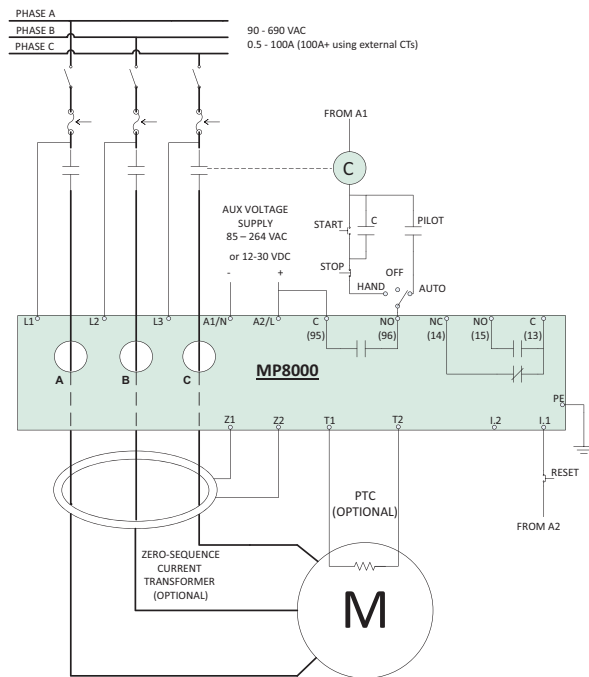

Figure 10
3. Provide control power to power the MP8000 with 85-264 V ac or 12-30 VDC and connect to terminals A1 and A2 per the diagrams on page 2. (See Figures 10 and 11)